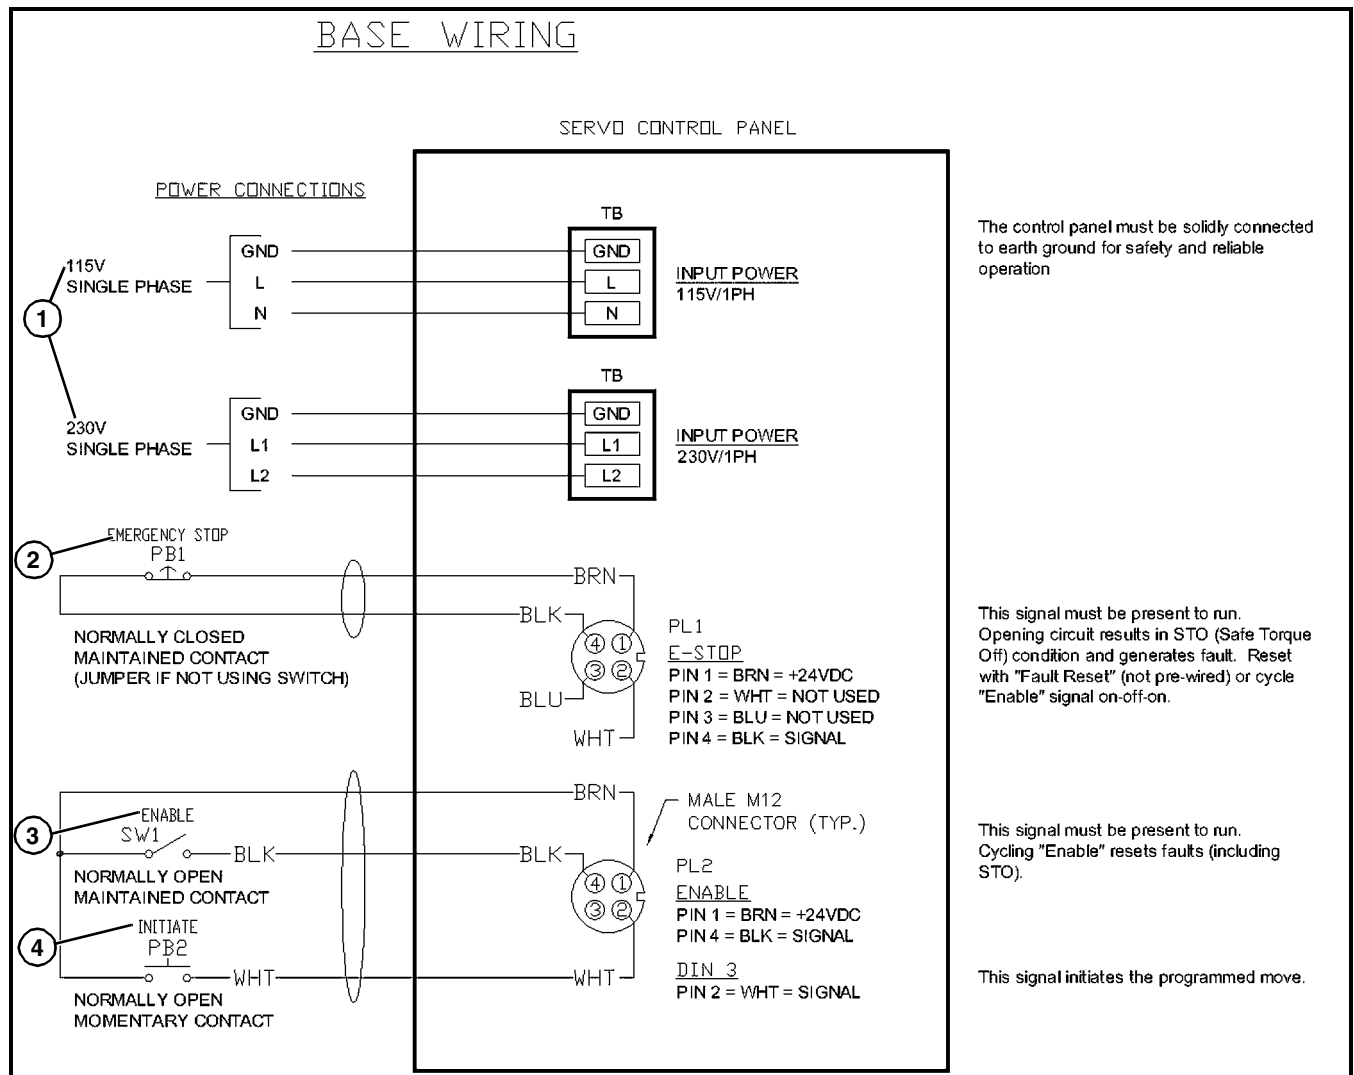

Figure 22
This wiring must be completed for all applications/configurations. Minimum connections include input power (Figure 22, item 1), Emergency Stop (Figure 22, item 2), Enable (Figure 22, item 3), and Initiate (Figure 22, item 4).